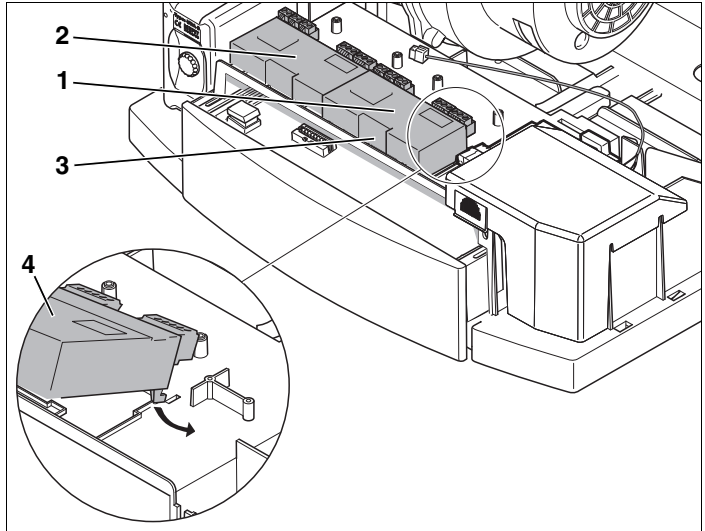

Fig. 2 Slide the function module into position, then push down ensuring that the lock is engaged
- Fit the function module (Fig. 2, **Item 4**) in the recesses using the locking tabs and push down to engage the lock (Fig. 2, **Item 3**.)